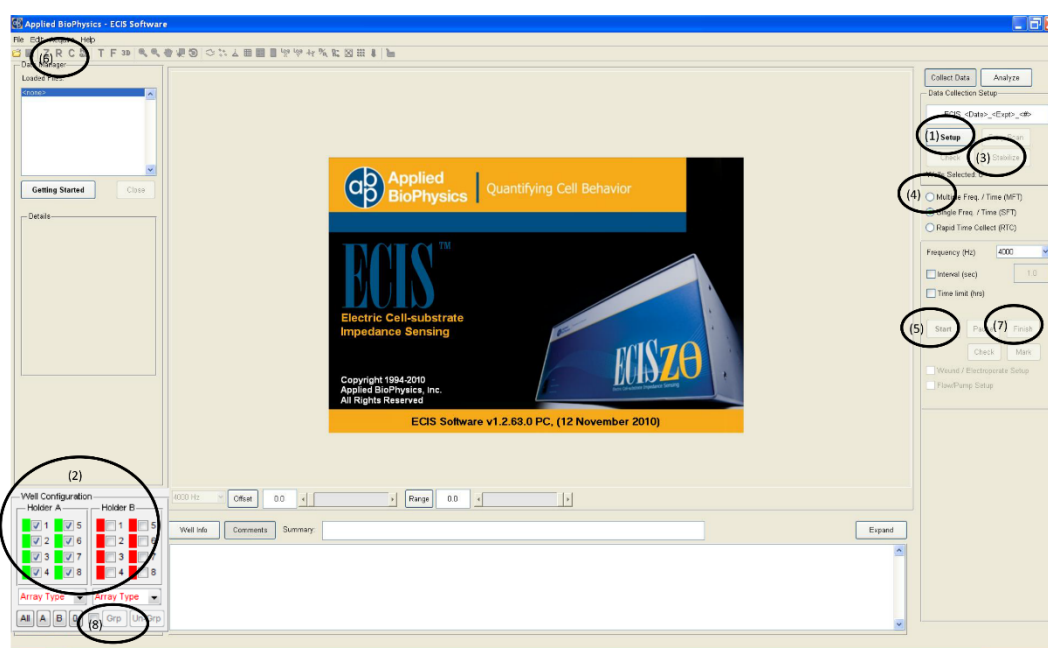

Figure 3. ECIS Software and set-up procedure
- d. Click the “Stabilize” button (Figure 3). Electrical stabilization should only be used on cell-free electrodes.
1. Put the cultureware containing cells in the ECIS Array station and run setup procedure (1) to check that all wells are properly connected (2) as shown in Figure 3.
2. Select “Multiple frequency” (4) and click start (5) as shown in Figure 3. The system will start to record the impedance at 11 pre-defined frequencies. Click “R” (6) and the resistance values will show up over time during the experiment. High frequency is usually used to monitor whether the cells form the confluent monolayer. While the cells are spreading, the resistance values are increasing at 4,000 Hz as shown in Figure 4. When the cells reach confluence, the resistance curve will reach the plateau, at this point the treatment can be added to test the change of barrier function.
6. If you need to calculate the average resistance values for multiple wells, usually, each treatment was run in triplicates and the average resistance values for each treatment group can be compared using statistical analysis. Select the desired wells (2) and select “group” (8) (Figure 3). Then click . The average resistance curve with error bars will show up automatically.